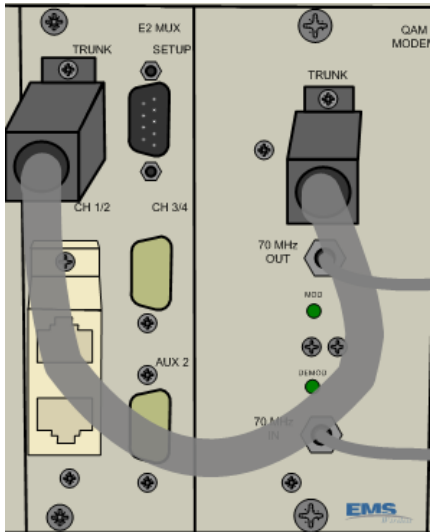

Figure 3: 2 T1 Connection
4. Connect the appropriate T1 lines to the second chassis panel as shown in Figure 3.